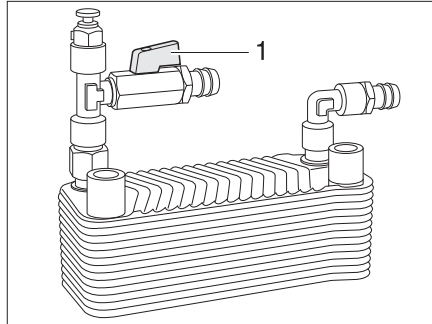

Fig. 329 Alde heat exchanger
- Turning on:* ■ Set stopcock handle (Fig. 329,1) parallel to the pipe.
- Shutting off:* ■ Set drain cock handle (Fig. 329,1) at a right angle to the pipe.